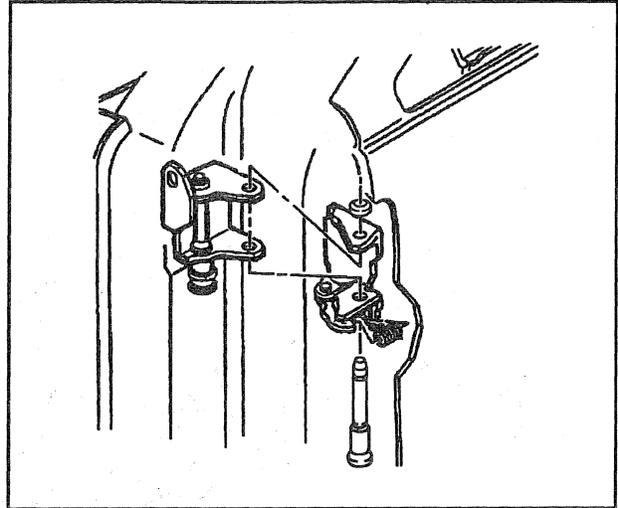

Figure 13—Upper Hinge Pin and Spring
5. Lower hinge pin retainer (figure 13).
6. Lower hinge pin using a soft-faced hammer and a pair of locking pliers to grasp the pin and drive it out (figure 13).
7. Upper hinge pin retainer (figure 13).
8. Upper hinge pin (figure 13).
3. Upper hinge pin with the pointed end up (figure 13).
4. New hinge pin retainer (figure 13).